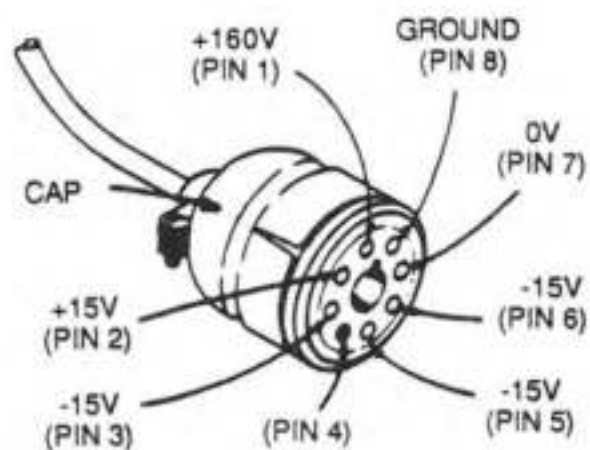

Figure 6-2. Voltages at Preamp Connector
- 2 Verify the voltages shown in Figure 6-2. If voltages do not exist, refer to para. 6-5.